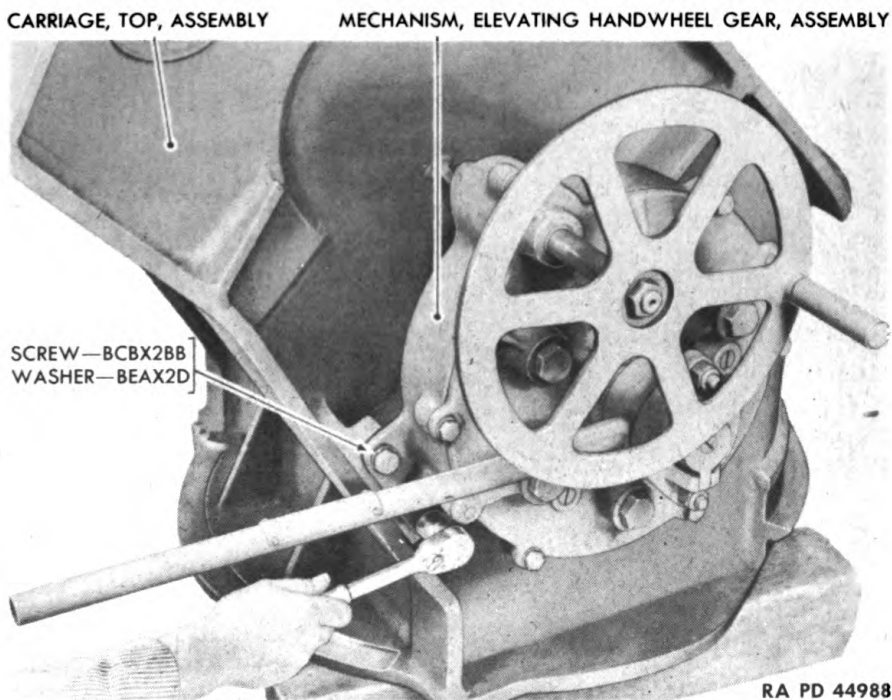

Figure 165—Removing Screws from Elevating Handwheel Gear Housing
(1) Remove two screws BCBX2BB and washers BEAX2D that hold housing D5817 in place on top carriage (fig. 165).